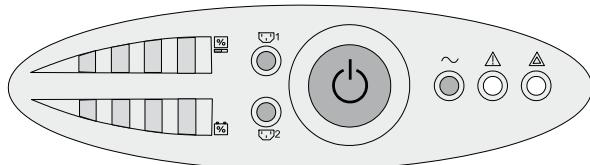

Figure 233 Front Panel of the 1550 Evolution Battery Backup Unit
- ◆ If the front panel of the Battery Backup Unit is as shown in Figure 233, the Battery Backup Unit is **1550 Evolution**.